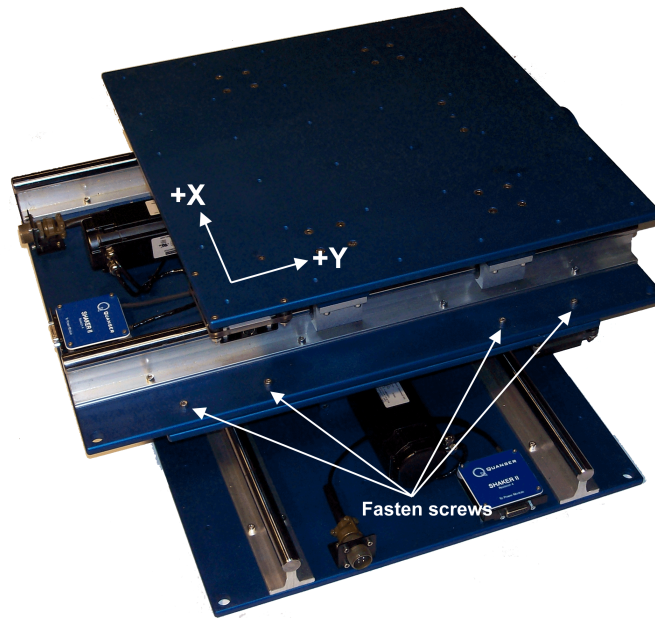
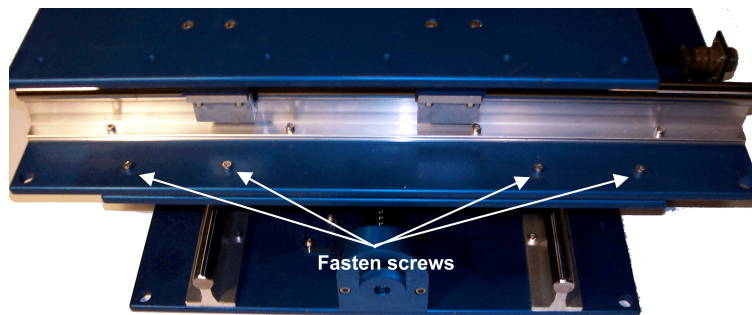

Figure 5.2: Axes on the Shake Table II systems in X-Y configuration
Figure 5.3: Side view of screw holes on the Shake Table II systems in X-Y configuration
The bottom table drives the x-axis motions and the y-axis displacements are generated by shake table mounted on top. The axes are illustrated in Figure 5.2.
1. There is a total of 8 screw holes that will be used to fasten the two shake tables together. Figure 5.2 shows the 4x screw holes on one side.
3. As pictured in Figure 5.2, position the y-axis shake table onto the stage of the bottom Shake Table II (i.e., the one with the rubber stops).
4. Insert the 8 screws into the 8 screw holes depicted in Figure 5.2 and Figure 5.3. The rubber stops may have shifted around when the top table was mounted. It is recommended to have two people for this task. One person lifts the top system while the other can align the screw with the screw hole and the rubber stop. Don't tighten the screws fully until they are all positioned properly.